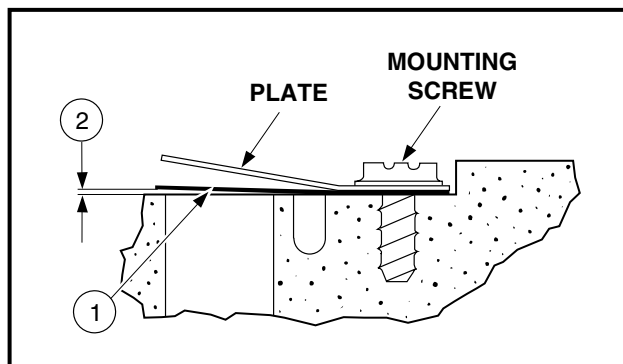

Figure 13-38 Reed Valve
1. Inspect the reed valve (1) for sticking or binding. Replace if necessary (**Figure 13-38, Page 13-20**).
3. Inspect the reed valve (1) seating surface. It must not have any nicks or burrs.
NOTE: Place the reed valve on the seat so there is a slight gap (2) 0.008 inch maximum (0.203 mm) between the valve and the seat (**Figure 13-38, Page 13-20**).